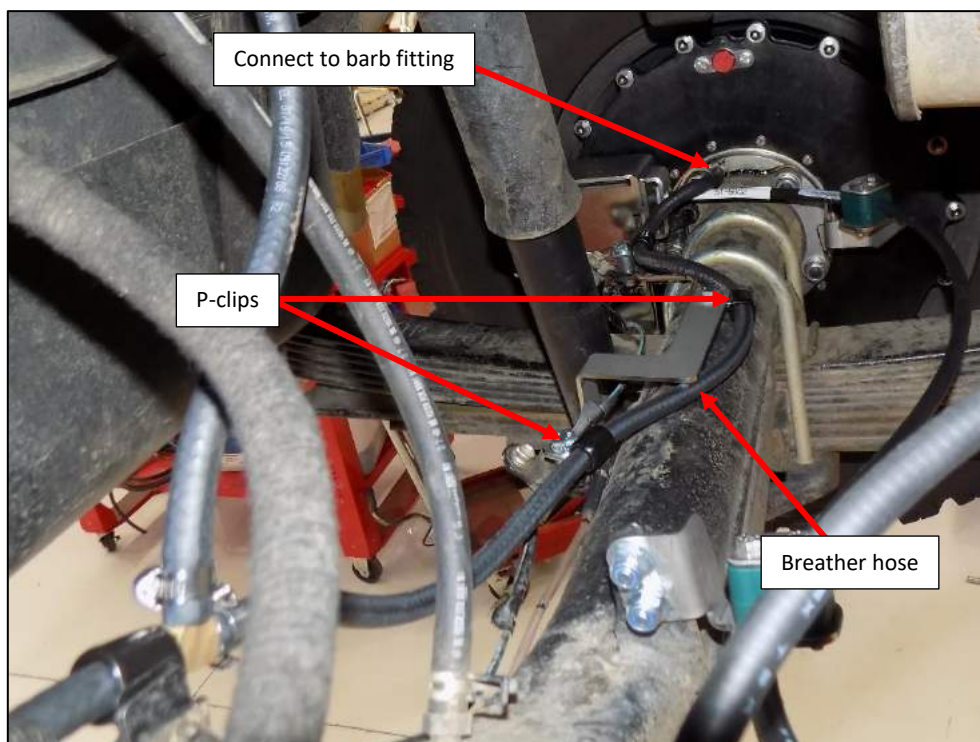

Figure 50
40. Connect breather hose to the barb fitting on the LH-brake and secure with a hose clamp (Figure 50). Route the hose across the axle toward the diff centre.